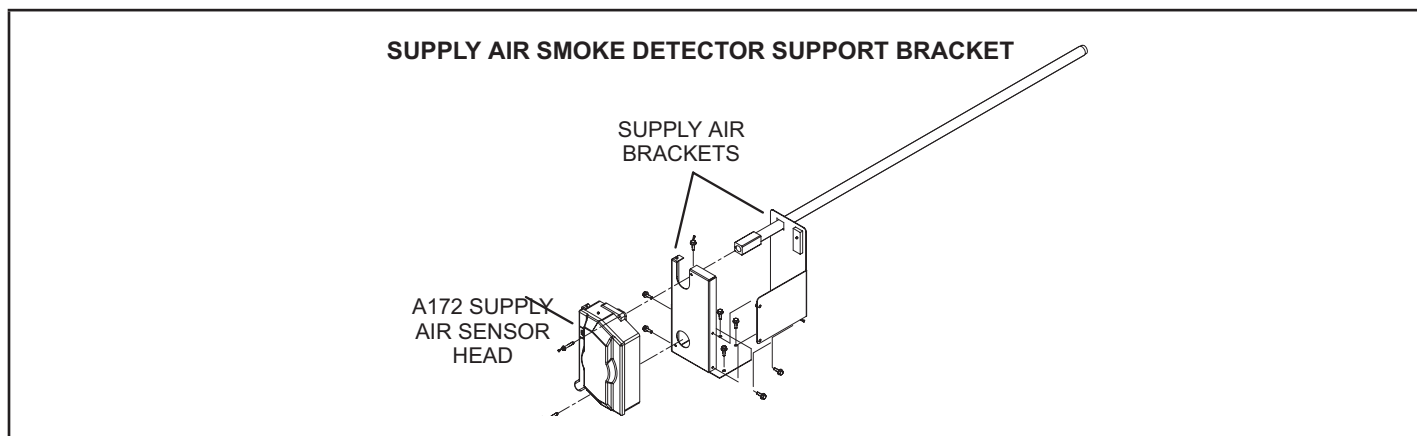
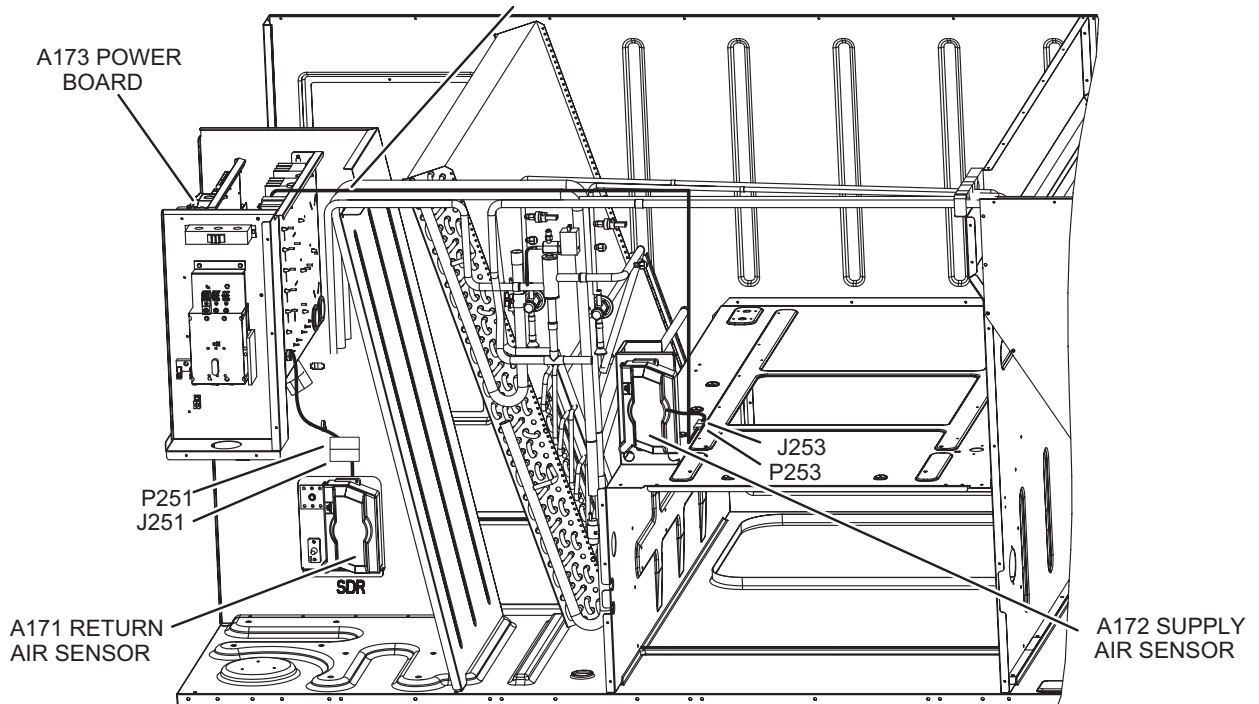

FIGURE 4
FIGURE 5
- 1 - Use manufacturer's instructions provided with smoke detector to install sensor(s) and power board. See FIGURE 4 to assemble the supply air bracket. Refer to FIGURE 5 for location of power board, supply air sensor and return air sensor.